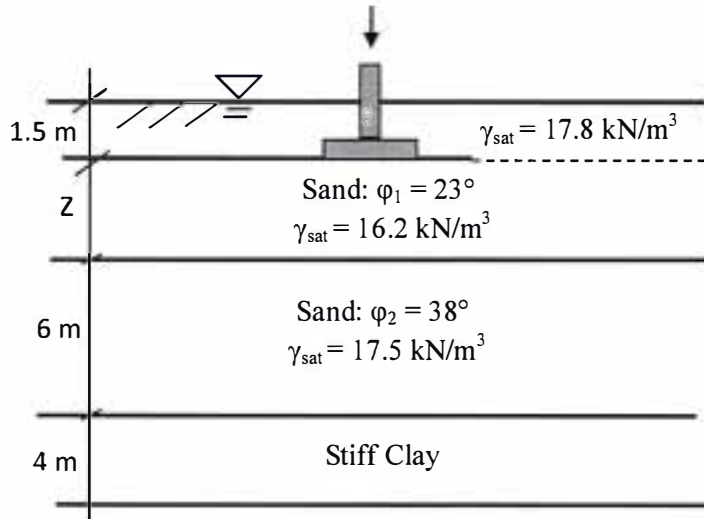

Fig. 4
4. The soil exploration report is simplified as given in Fig. 4. The ground water table is located at EGL. Provide a factor of safety equal 2. The footing width was chosen 2.5 m.